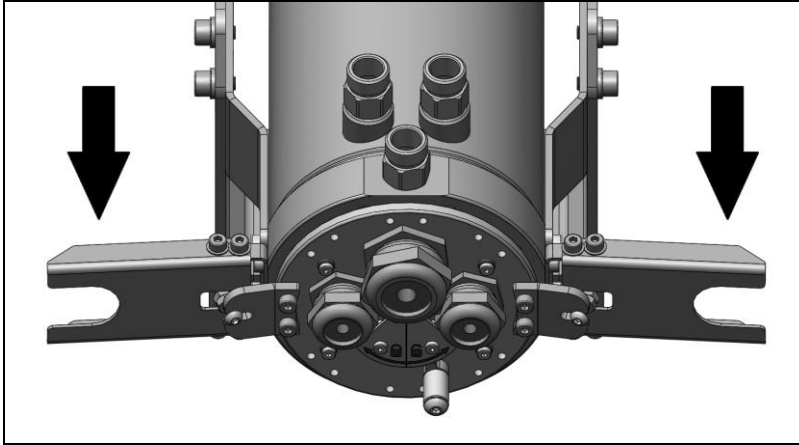

Figure 21: Unlocking of the hinge
5. Dismount in reverse order (**Figure 21**).